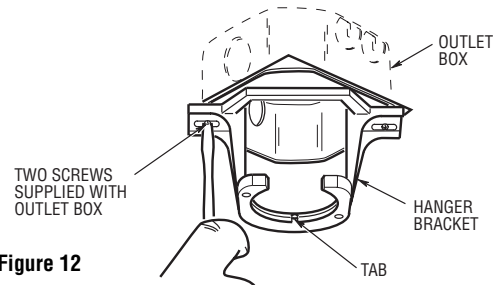
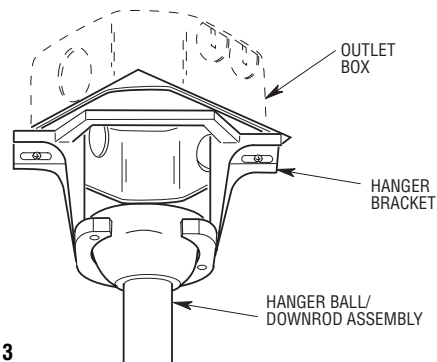

Figure 12
Figure 13
- 1. Securely attach the hanger bracket to the outlet box using the two screws supplied with the outlet box (Figure 12).
- 2. Carefully lift the fan and seat the hanger ball/downrod assembly on the hanger bracket that was just attached to the outlet box (Figure 13). Be sure the groove in the ball is lined up with tab on the hanger bracket (Figure 12).